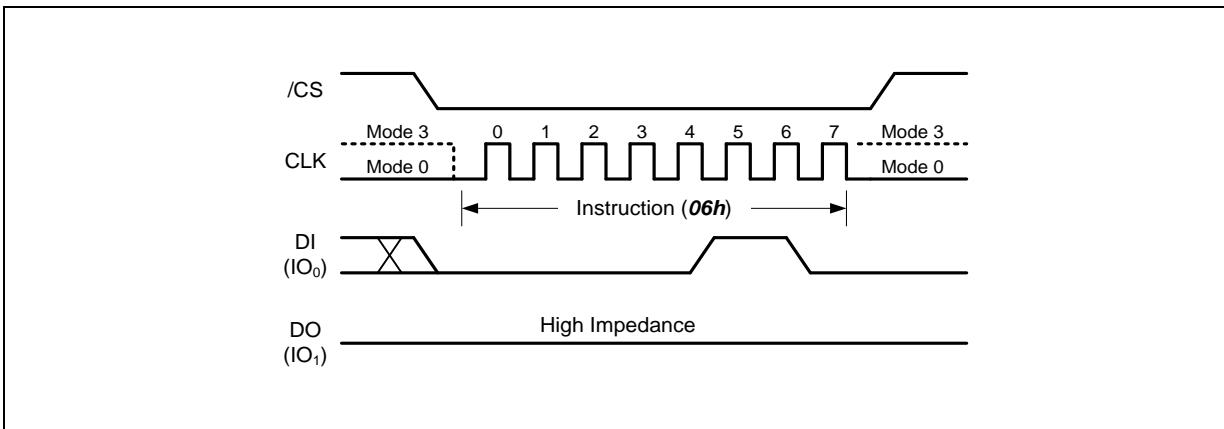

Figure 15. Write Enable Instruction
The Write Enable instruction (Figure 15) sets the Write Enable Latch (WEL) bit in the Status Register to a 1. The WEL bit must be set prior to every Load Program Data (02h/84h/32h/34h), Program execute and Block Erase instruction. The Write Enable instruction is entered by driving /CS low, shifting the instruction code “06h” into the Data Input (DI) pin on the rising edge of CLK, and then driving /CS high.